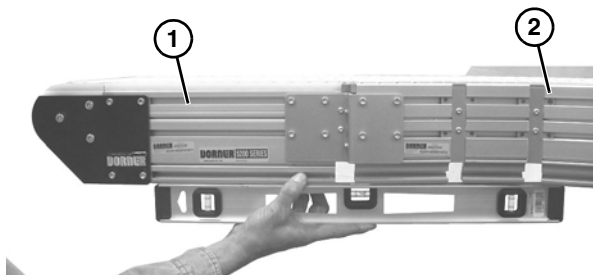

Figure 11
The bottom of the straight frame sections (Figure 11, item 1) and curve frame sections (Figure 11, item 2) must be level.